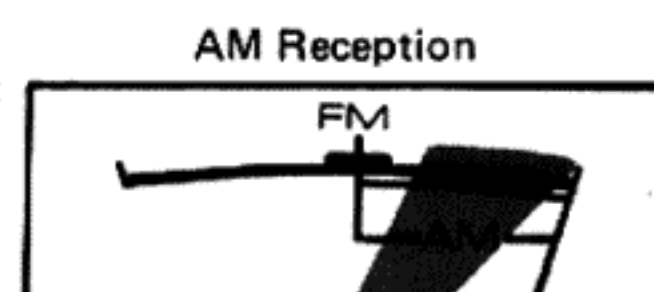

Fig. 10
2. Turn the TUNING knob to select your station. Best reception is obtained when the AM/FM TUNING meter needle deflects to the extreme right (Fig. 10).